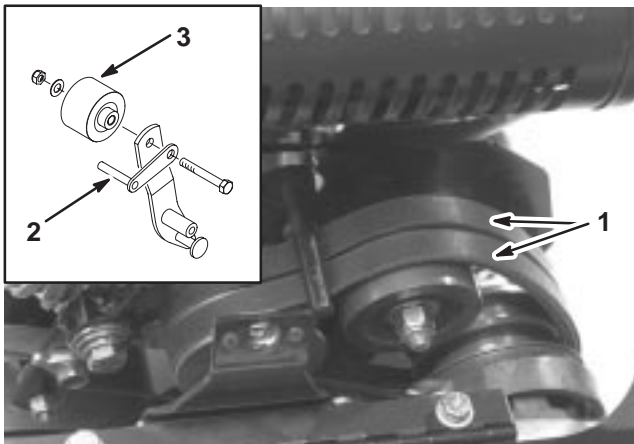

Figure 41
8. To push or pull the machine easier without starting the engine, adjust the belt guide (Fig. 41, inset) as follows: